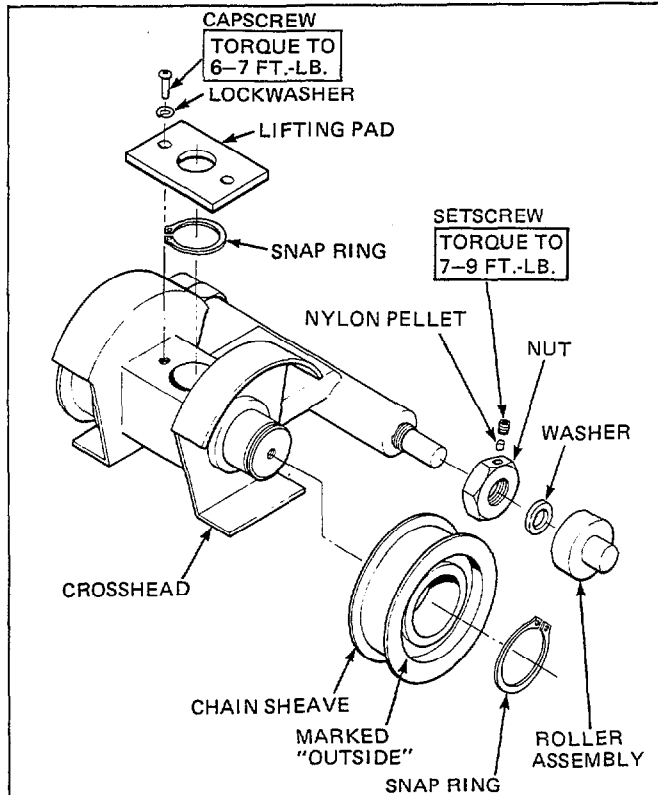

Figure 38. Crosshead Assembly
1. Assemble the crosshead chain sheaves in place on the crosshead assembly. See Figure 38.
6. Secure the crosshead to the cylinder rod using the retaining snap ring. Refer to Figure 38.
7. Install the crosshead lifting pad. Refer to Figure 38.